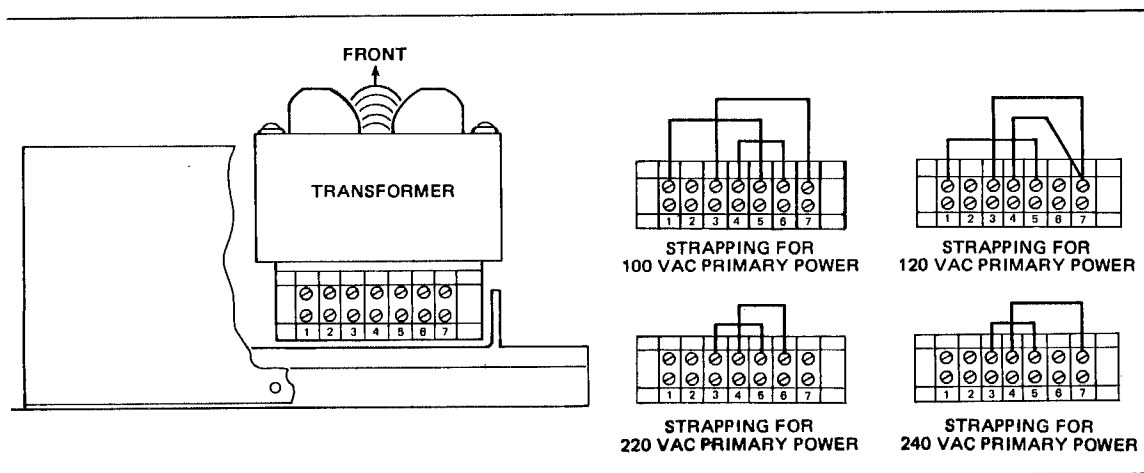

Figure 2-5. Transformer Strapping Configurations
- D. Primary Winding -- Verify correct transformer strapping configuration (see figure 2-5).
See figure 2-5 for restrapping input power.